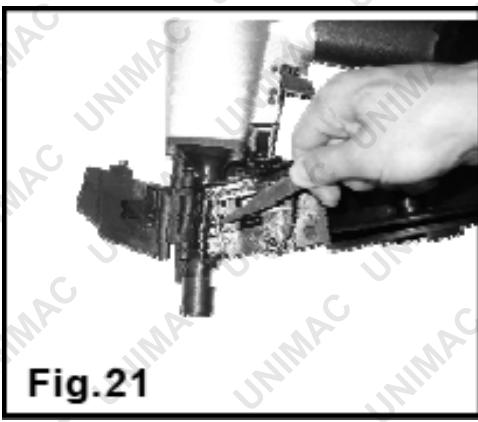

Fig.21
3. Use a slender, soft steel rod to drive the drive blade to its uppermost position. Use the needle nose pliers to remove the jammed fastener (Fig. 21).